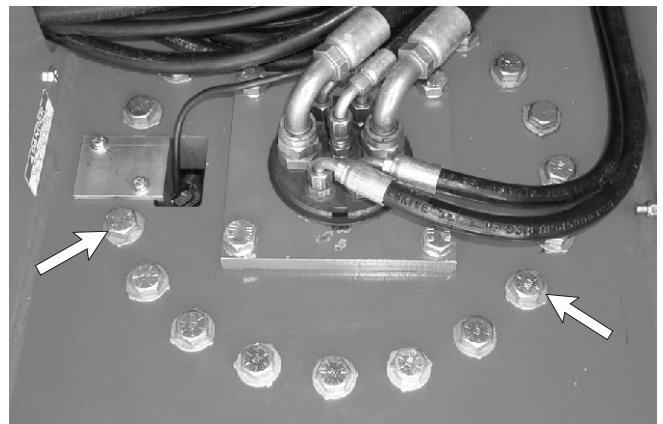

Figure 6.18—Rotation Bearing Bolts
Raise the main boom to access the rotation bearing bolts in the turntable (refer to Figure 6.18).
There are two lanyard anchors ④ below the upper control panel (refer to Figure 6.18). Visually inspect the lanyard anchors to make sure they are in place, are not deformed and are securely fastened to the platform.